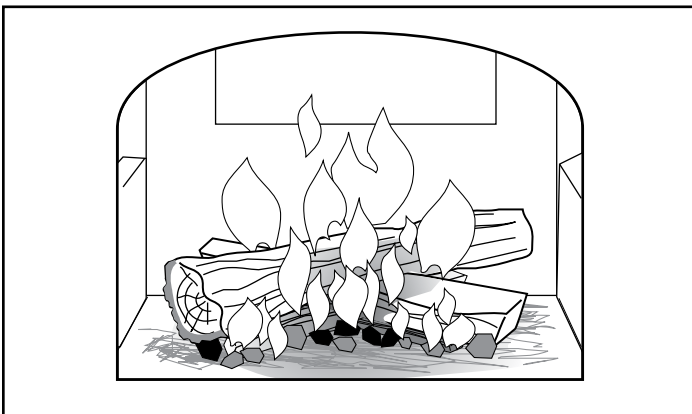

Fig. 38 - Add larger pieces of wood as the fire begins to burn well.
4. **If your Defiant® has been broken-in previously** using Steps 1-3, continue to build the fire gradually. Add larger wood with a diameter of 3-4" (75-100 mm). Continue adding split logs of this size to the briskly-burning fire until there is a glowing ember bed 2-3" (51-75 mm) deep. (Fig. 38) A good ember bed is necessary for proper functioning of the non-catalytic system and may take an hour or more to establish.